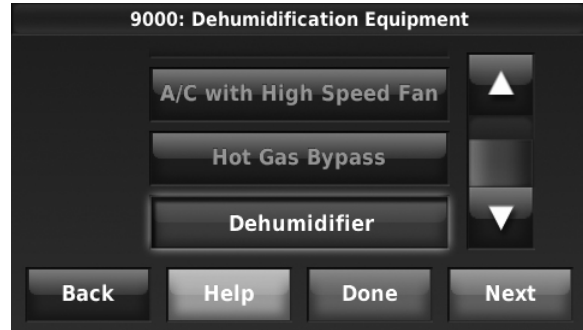

Fig. 246.
- Select the Dehumidification Equipment in ISU 9000. See Fig. 246.